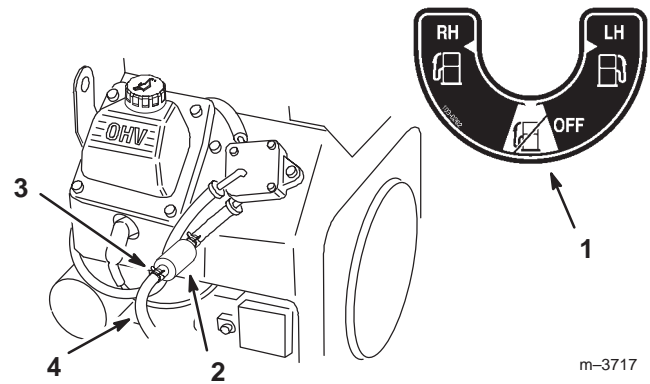

Figure 42
5. Install a new filter and move the hose clamps close to the filter (Fig. 42).
2. Close fuel shut-off valve (Fig. 42).
3. Loosen the hose clamp at the fuel filter and slide it up the fuel line away from the fuel filter (Fig. 42).
4. Pull the fuel line off fuel filter (Fig. 42). Open fuel shut-off valve and allow gasoline to drain into a gas can or drain pan.
5. Install the fuel line onto the fuel filter. Slide the hose clamp close to the fuel filter to secure the fuel line (Fig. 42).